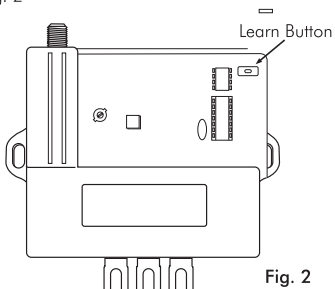

Fig. 2
Step 2. You can now see the circuit board inside. See Fig. 2
Keep the LRN button (see Fig. 2) pressed for .5 sec. until the red LED illuminates. Then release the LRN button and push the key of the transmitter. Once the red LED blinks rapidly, the procedure is complete. The key of the transmitter will activate the output COMM1 of the receiver.